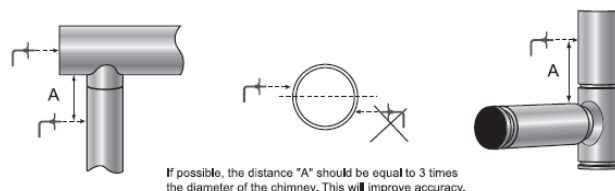

FIGURE 39
10. The **Figure 39** shows the location of the probe for the PDS. Location is important to make sure there is enough pressure or draft available or the switch to work.